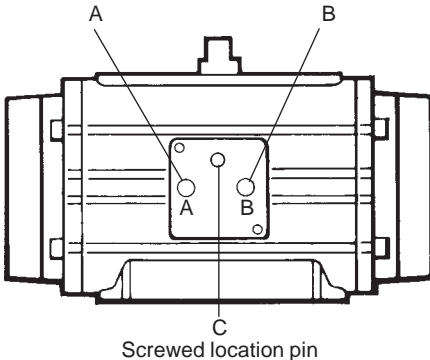

Fig. 3
- C Showing screwed location pin must be located far enough into block to prevent poor seal and ensure full contact with gasket face on block (refer to Fig. 3).